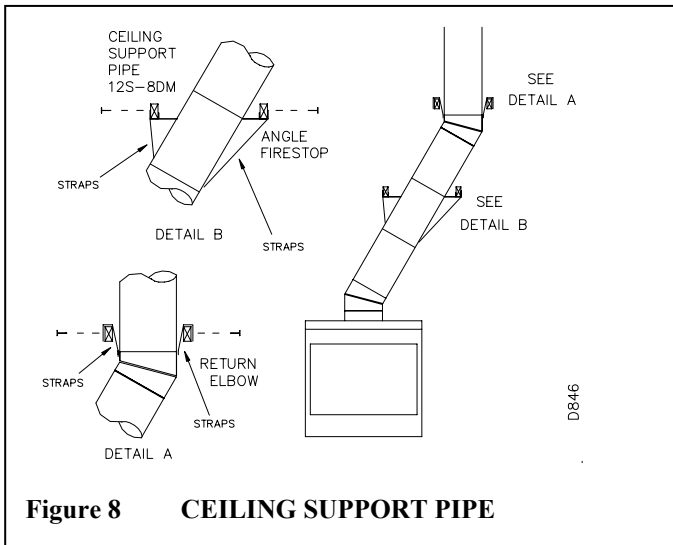

Figure 8 CEILING SUPPORT PIPE
- Chimney weight above offset rests on return elbow. Straps must be securely nailed to rafters or joists (see figure 8, details a & b).